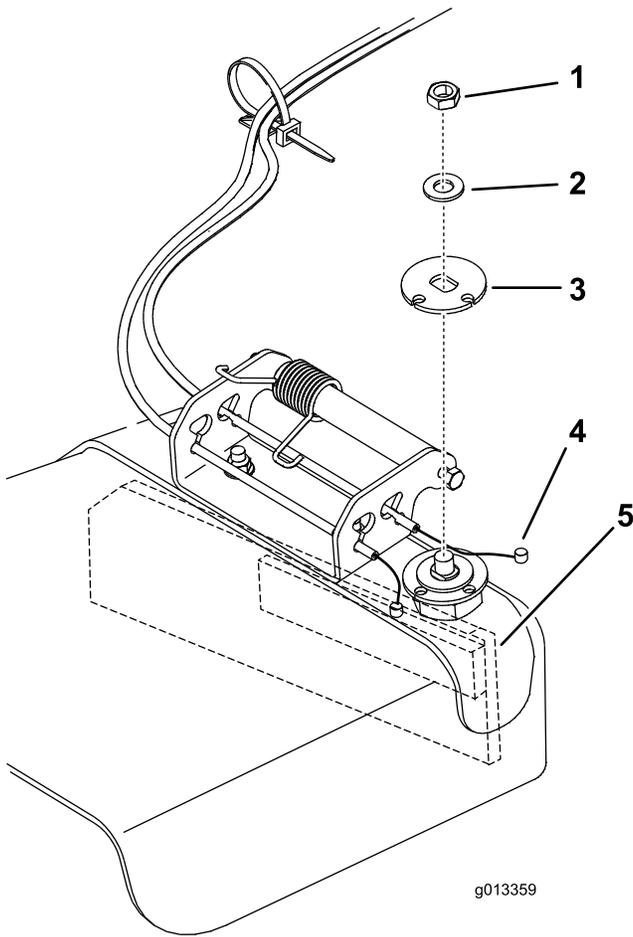

Figure 12
11. While holding onto the gate assembly, remove the jam nut and discard (Figure 12).